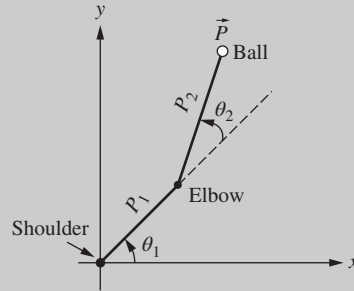

Figure 4.16 Position of the arm throwing a ball.
- Using the x - y coordinate system shown in Fig. 4.16, write the position of the ball $\vec{P} = \vec{P}_1 + \vec{P}_2$ in the standard vector notation.